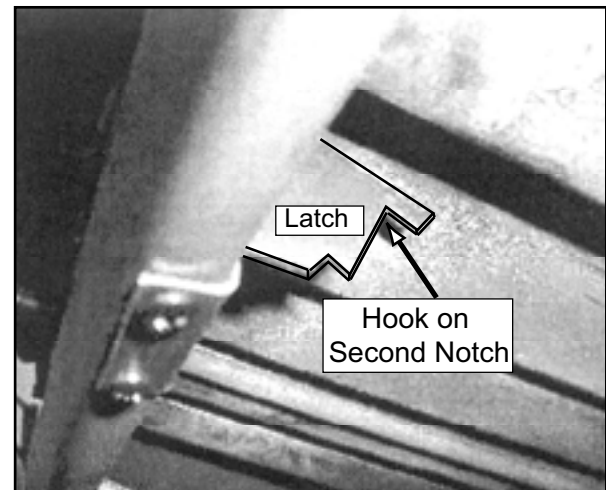

Figure 33.3
- To re-install the top baffle, align the hooks on the baffle with the slots in the baffle hangers, push up and slide back. **Figure 33.3.**